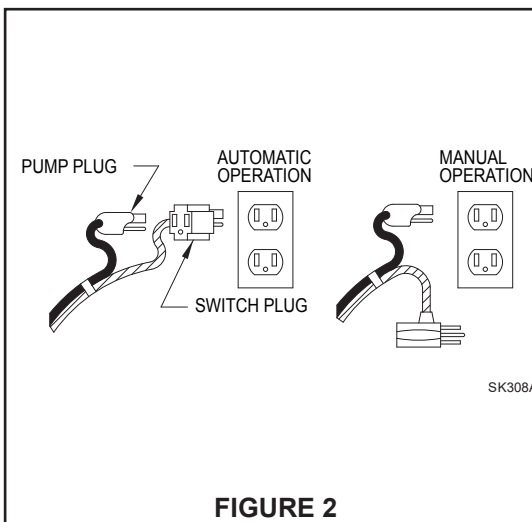

FIGURE 2
2. Insert the piggyback plug from the switches into a standard grounded outlet of proper voltage. For automatic operation plug the pump directly into the piggyback plug. (Pump can be manually operated by bypassing piggyback plug.) See Fig. 2.